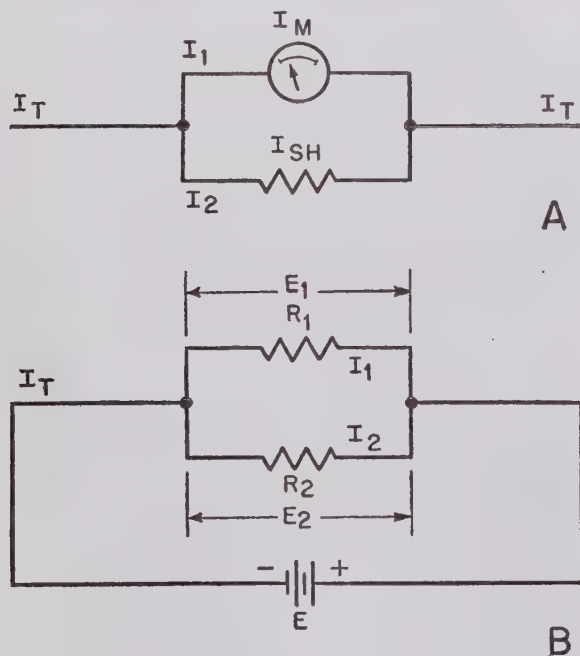

Figure 15. Current flow in a parallel circuit.
b. CURRENT THROUGH RESISTORS IN PARALLEL. In a circuit consisting of two resistors in parallel, current divides, and more current flows through the smaller resistor than through the larger one. If two resistors, R_1 and R_2 , are in parallel, the voltages across both are equal, or E_1 is equal to E_2 (B, fig. 15).
- (1) The two circuits in figure 15 show the similarity between a parallel circuit containing two resistors and a meter-and-shunt combination. The formula given in the previous paragraph can be transposed to: